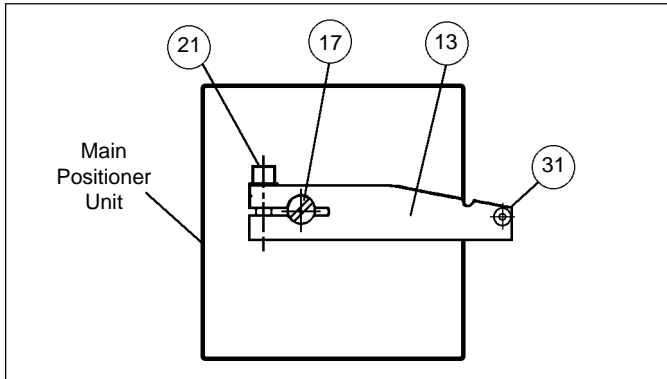

Figure 4 - Rear View
9. Place a thin film of adhesive, glue or pipe thread sealant on the "back" side of cam (24) to secure toothed lock washer (28) to cam (24). Use post end screw (23) to correctly align centers of these three parts (24, 27 & 28); do not allow the post-end screw (23) to adhere to these parts.
10. Using the spacer of Step 8., position cam (24) with adhered parts (27 & 28) up to the end of positioner rotary shaft (32). Carefully screw-in post-end screw (23) while holding cam (24) in its approximate position. Hand-tighten post-end screw (23) until certain that the washers (27 & 28) have remained in alignment. (If washers (27 & 28) are misaligned, the cam (24) will not be able to be secured.)
11. Using the spacer of Step 6. above, wrench-tighten post-end screw (23) into a preliminary position.
12. As shown in Figure 4, attach the feedback lever (13) onto the positioner unit's main shaft (17) by hand-tightening socket cap screw (21). **DO NOT WRENCH TIGHTEN SCREW (21).**